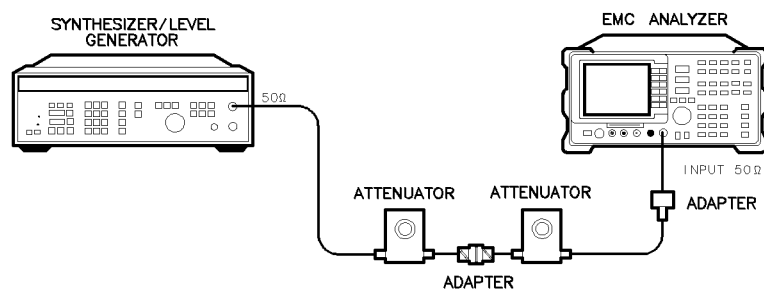

Figure 2-17. Reference Level Accuracy Test Setup, HP 8591EM
2. Connect the equipment as shown in Figure 2-17. Set the 10 dB step attenuator to 10 dB attenuation and the 1 dB step attenuator to 0 dB attenuation.